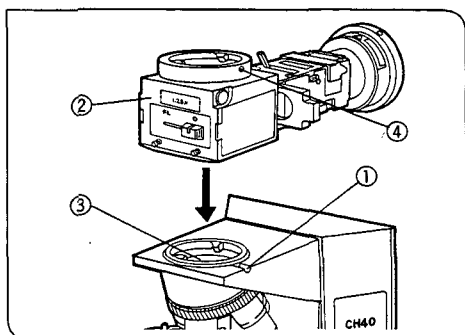

Fig. 1
1 Mounting the Reflected Light Fluorescence Vertical Illuminator CH3-RFA (Figs. 1,2)
4. Insert the circular dovetail mount at the bottom of the observation tube into the opening on the vertical illuminator, positioning the observation tube to point the binocular eyepieces towards the front. Clamp the observation tube by tightening the clamping screw ④. (Fig. 1)